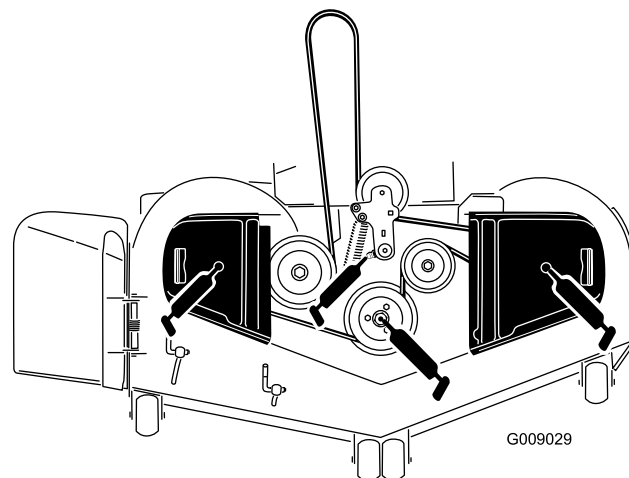

Figure 50
5. Grease the mower-deck idler-pulley pivot until grease comes out the bottom (Figure 50).
6. Grease the 3 spindle bearings until grease comes out the lower seals (Figure 50).
7. Grease the drive-belt idler arm (Figure 50).